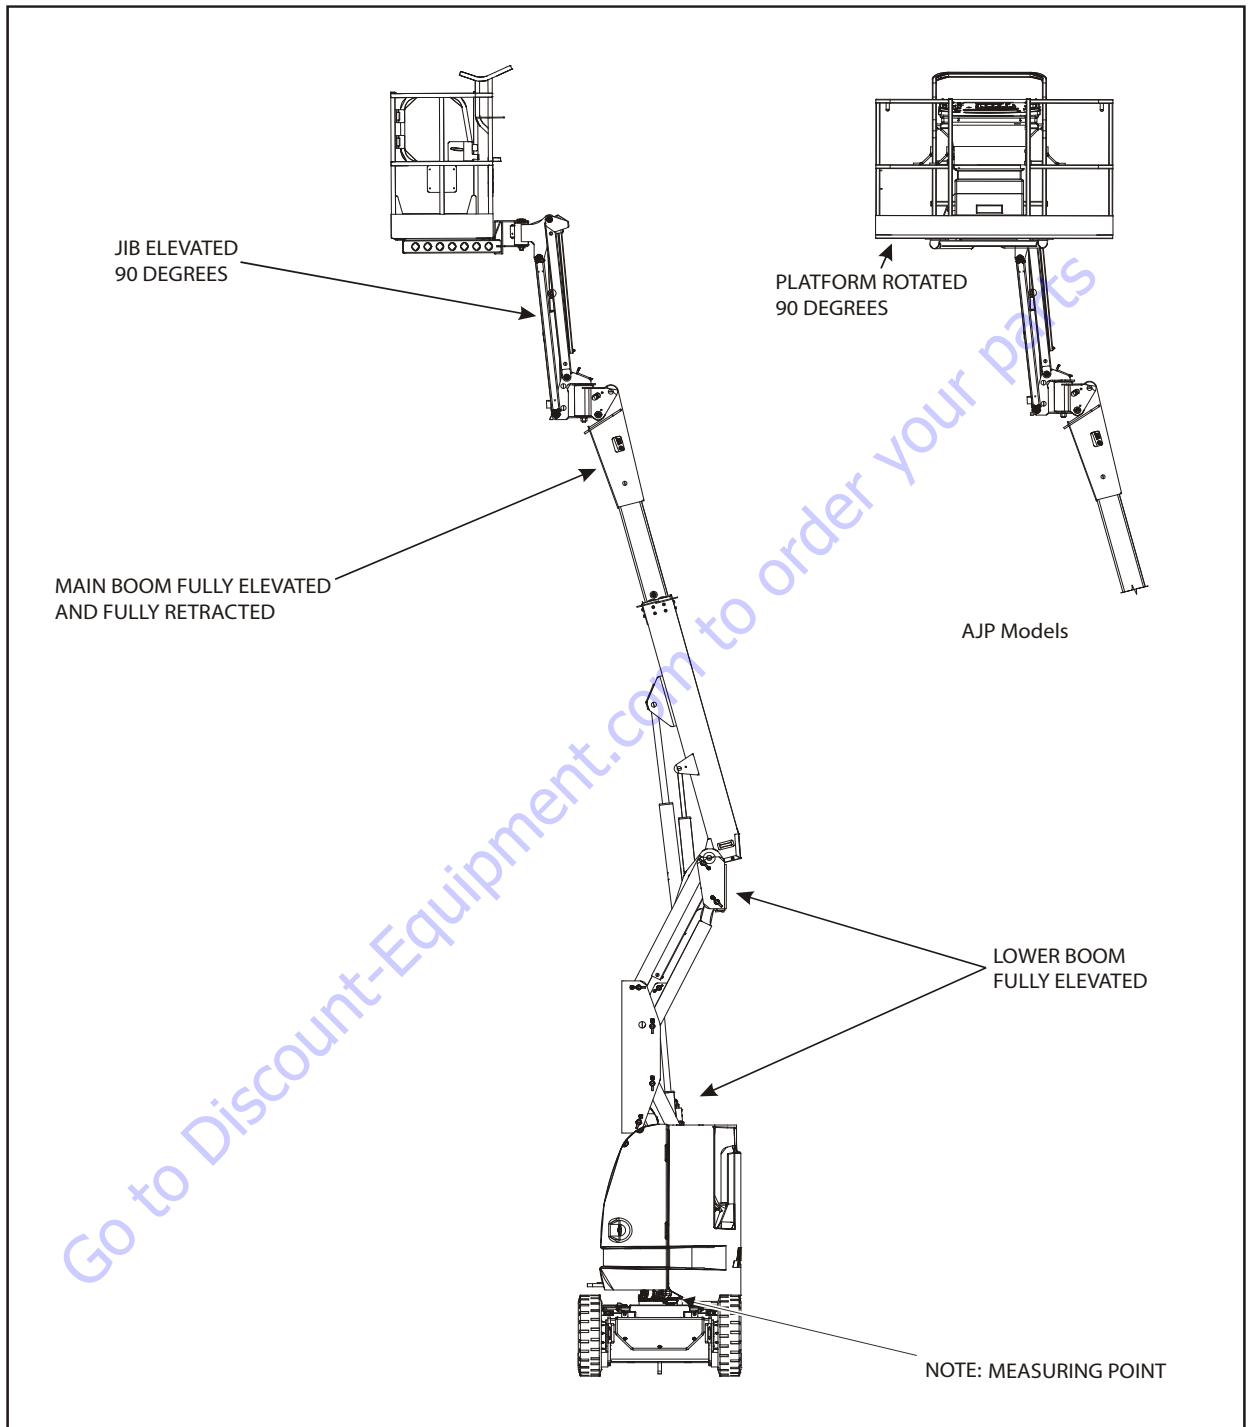
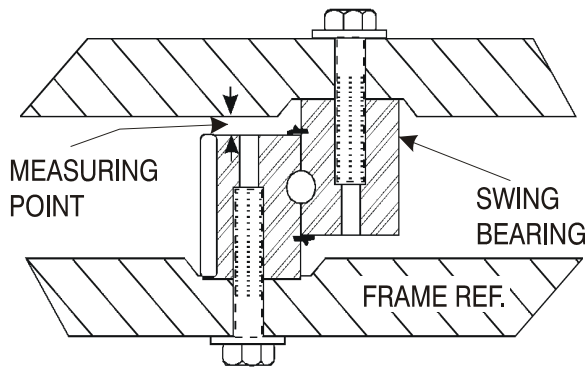

Figure 3-27. Swing Bearing Tolerance Boom Placement
Figure 3-29. Swing Bearing Tolerance Measuring Point
- b. At the positions indicated on Figure 3-27., Swing Bearing Tolerance Boom Placement try and insert the 0.0015" feeler gauge between the bolt head and hardened washer at the arrow indicated position.
1. With the boom positioned over the side of the machine, the Upper Boom horizontal with telescope fully extended and Tower Boom raised half way (approx 37°) (See Figure 3-27., Swing Bearing Tolerance Boom Placement), using a magnetic base dial indicator, measure and record the distance between the swing bearing and turntable. Figure 3-29., Swing Bearing Tolerance Measuring Point.
2. At the same point, with the boom positioned over the side of the machine, the Upper Boom fully elevated and the Mid/Lower Boom fully elevated, Figure 3-27., Swing Bearing Tolerance Boom Placement using a magnetic base dial indicator, measure and record the distance between the swing bearing and turntable (See Figure 3-29., Swing Bearing Tolerance Measuring Point).